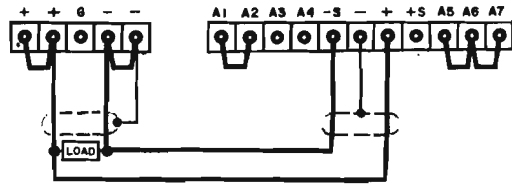

FIGURE 3-3. REMOTE SENSING STRAPPING PATTERN
a. Turn-off power supply and arrange rear terminal strapping pattern as shown in figure 3-3. The sensing wires will carry less than 10 ma and need not be as heavy as the load wires. It is recommended that sensing and load wires be twisted and shielded. (If shield is used, connect one end to power supply negative terminal and leave the other end unconnected.)